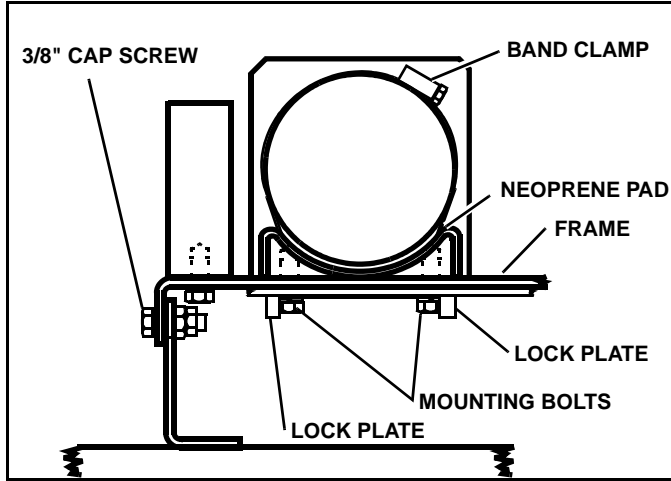

Figure 2-6
18. Position the Hydraulic control unit on the frame. Apply LOCTITE™ 262 (Red) on the two (2) 3/8" Cap Screws and insert through Lock Plate, frame and into endhead. Torque Cap Screws to 30-32 lb-ft. (See Figure 2-6)
**IMPORTANT:** After Cap Screws have been torqued bend end of Lock Plate over tight against two flats of each Cap Screw head. (See Figure 2-6)
*NOTE: make sure Neoprene Pad is located between power unit and mount. (See Figure 2-6)*